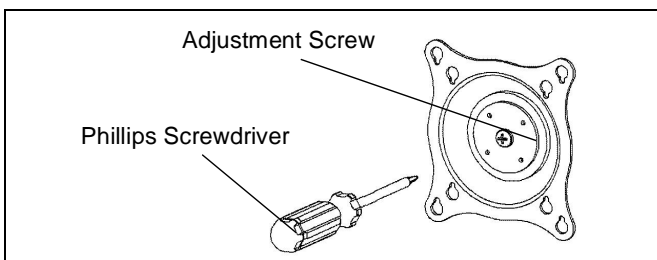

Figure 10:
- Using Phillips screwdriver, slightly loosen or tighten the tension adjustment screw as necessary (See Figure 10).